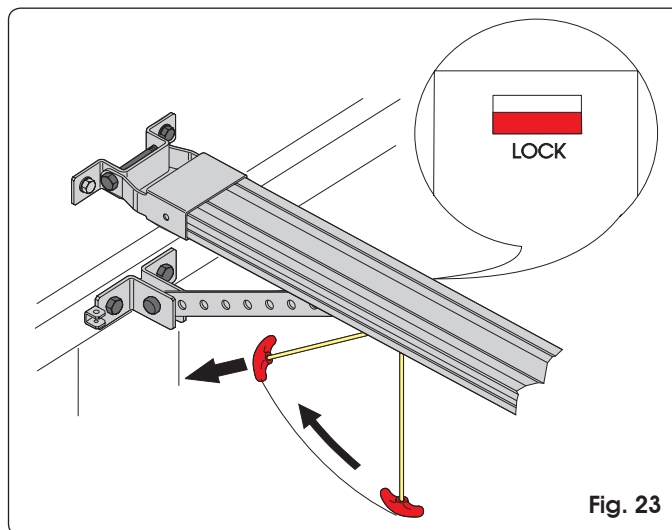

Fig. 23
- 4) Pull the release handle horizontally in the direction of the door (Fig. 23). Check if, when the handle is released, the LOCK window under the carriage is red. Move the door manually until you find the carriage's hook-on point.